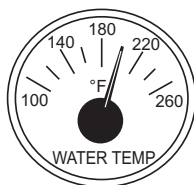

Figure 53. Coolant Temperature Gauge
10. The **coolant temperature gauge** (Figure 53) will indicate the coolant temperature. Under normal operating conditions the coolant temperature should be approximately 180°F (82°C).